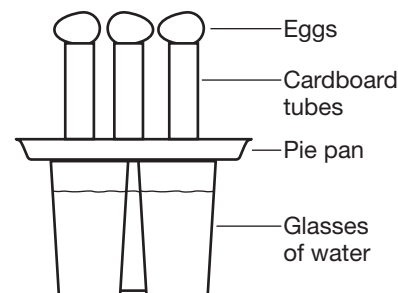

Figure 2.
9. Stand the tubes vertically on the aluminum pan, centering one tube over each glass (see Figure 2).
11. Balance one egg on top of each cardboard tube, laying the egg lengthwise across the top of the tube. Do not fit the narrow end of the egg into the tube; the egg should just rest on top (see Figure 2).